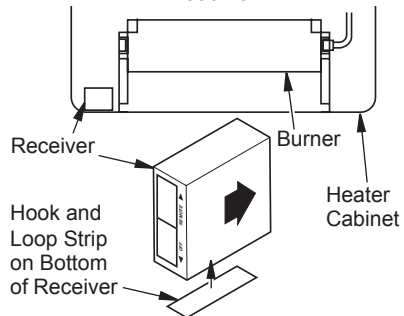

Figure 14 - Installing Remote Receiver
3. Remove adhesive backing on hook and loop strip and attach to receiver in location shown in Figure 14.
4. Place receiver with hook and loop strip's sticky side down in approximate location on inside of heater shown in Figure 14.